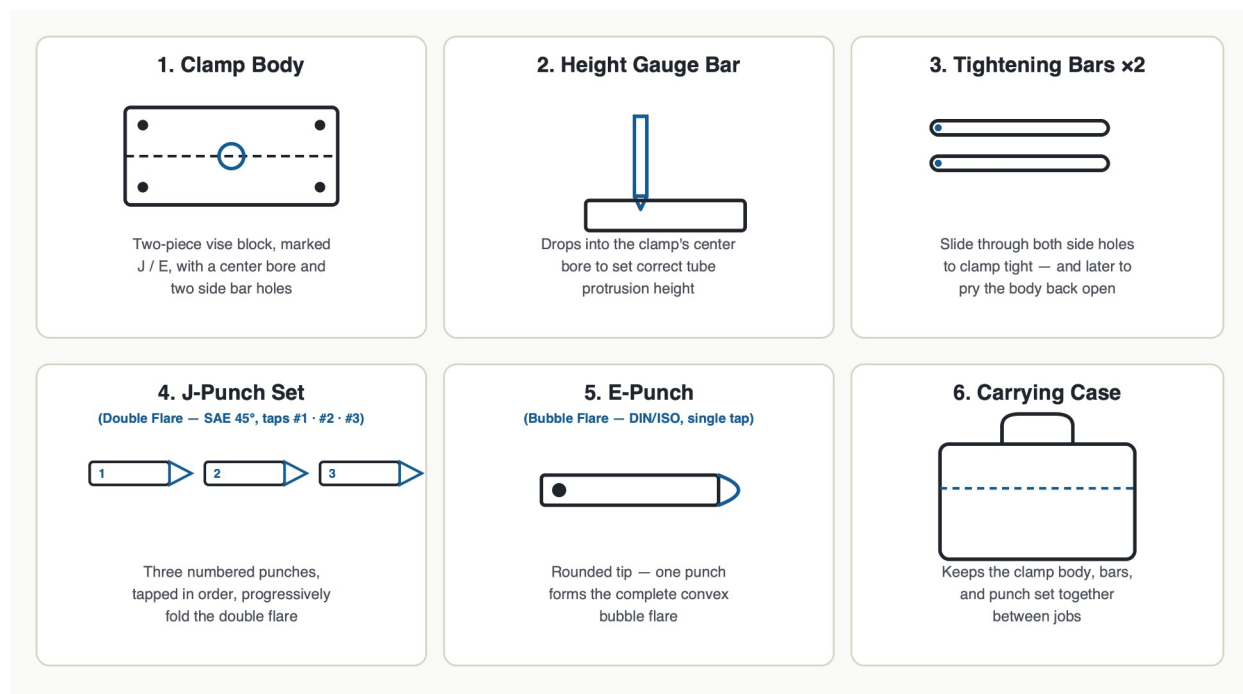

Figure 1 — PRF103601 kit contents
- This tool shares its engineering with the RUNMAX RT3601 3/16" vise-mounted flaring tool platform; the equivalent component types are the punch set, gauge bar, and tightening bars shown in Figure 1. Ask your retailer to confirm the correct cross-reference part number before ordering.